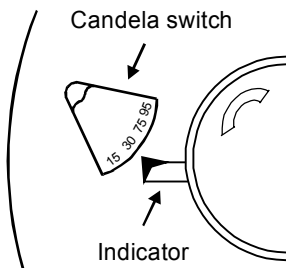

Figure 3: Candela switch
3. Slide the candela switch to the desired candela output (15, 30, 75, or 95 cd) by aligning it with the indicator below the switch. See Figure 3.